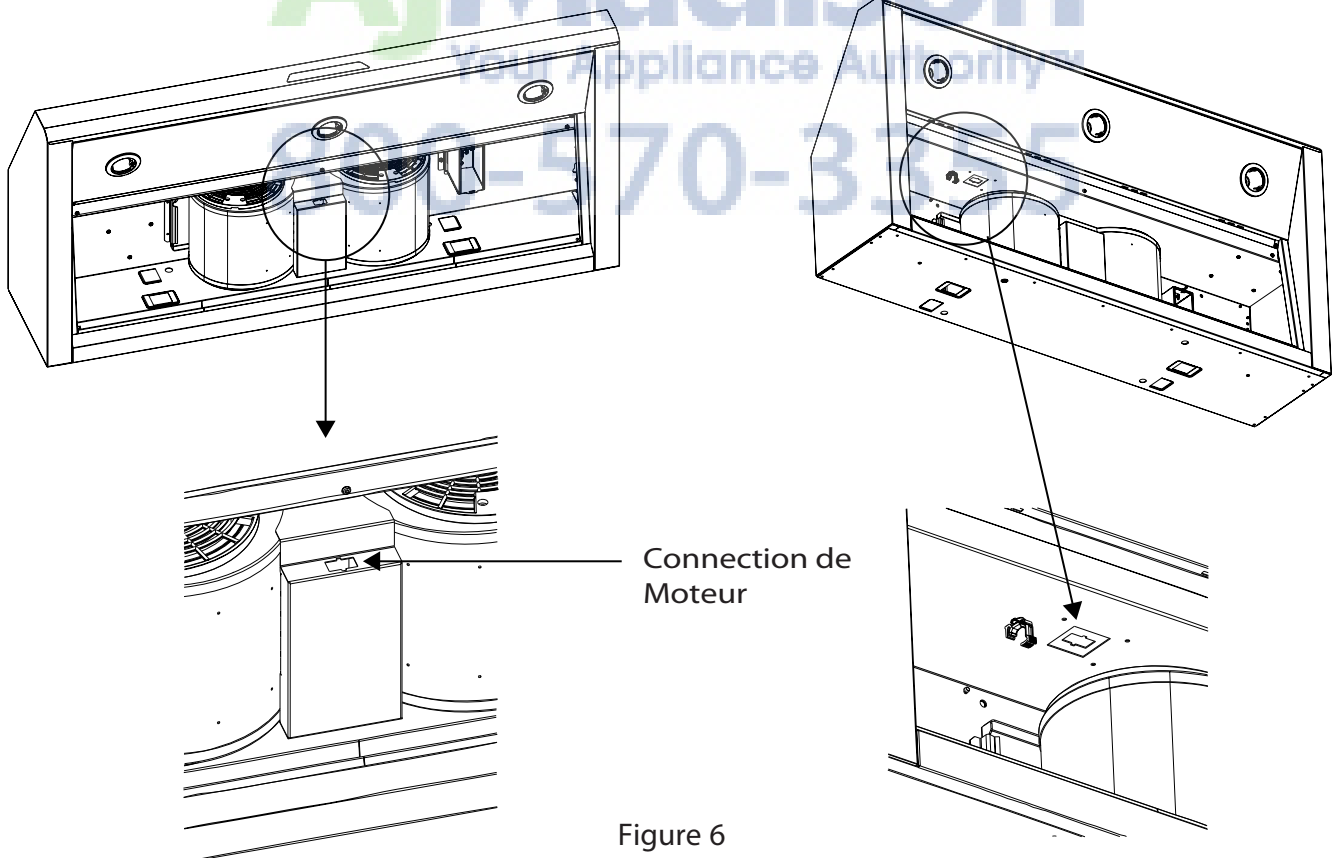

Figure 6
1. Brancher le ventilateur intégrale mox plug connector to the connector present inside the hood as shown Figure 6.